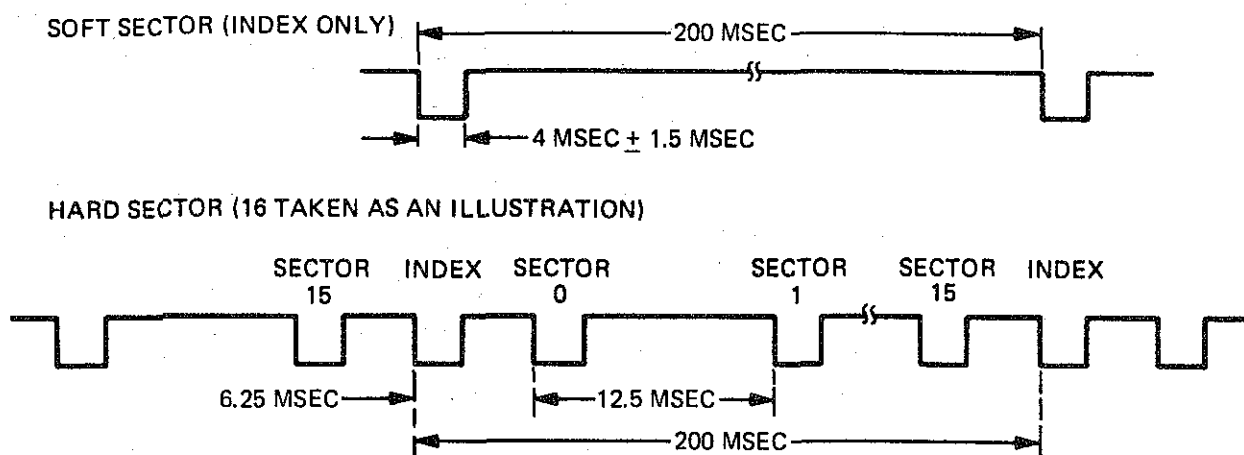

Figure 2-9. Index/Sector Timing
2.4.2.2 Index/Sector (J1-8). For soft sector operation that uses single-hole media, this line transmits a reference Index pulse once every diskette rotation to indicate the beginning of a track. For hard sector operation that uses multi-hole media, this line transmits the Index pulse and all Sector pulses where Sector pulses indicate the beginning of a sector. Pulse widths for both Index and Sector is 4+1.5 milliseconds. Figure 2-9 shows the Index/Sector timing.